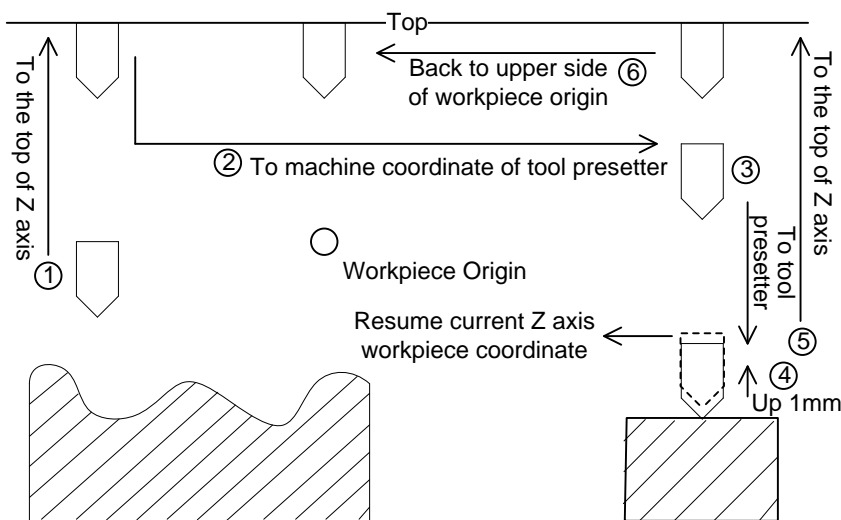

Fig. 3-21 Calibration after Tool Change
- 4) After tool change or tool break, press F5 [Preset], and then press F2 [After Tool Change] in the new pop-up manipulation button bar to restore the Z workpiece coordinate value of current point, as shown in Fig. 3-21. The system ends this process automatically.